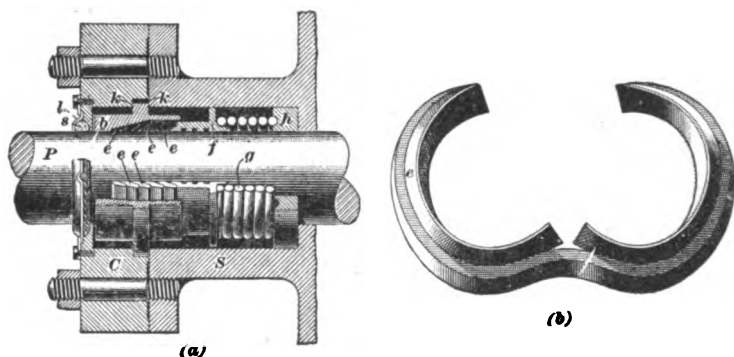

FIG. 21.
**21. Jerome Metallic Packing.**—A sectional view of the Jerome metallic packing is shown in Fig. 21 (a), while in (b) one of the packing rings is shown open, ready to be closed